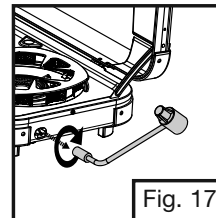

Fig. 17
4. Remove regulator from stove. (Fig. 17)